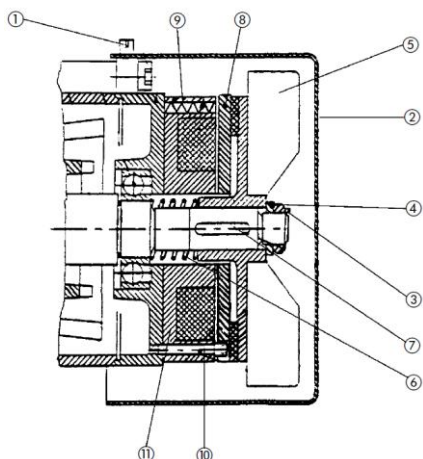
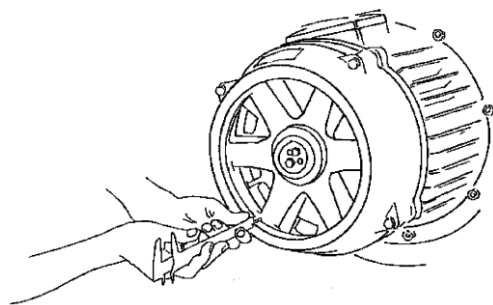

Figure 18
Figure 19
Loosen the screws item 1 and remove the grille item 2 (figure 17). With the brake applied measure at any point between the brake fan (figure 18) and a surface of the bell. After this measurement, axially push the fan inside the motor as use a lever and make another measurement, recording the difference (figure 18). If the difference is greater than the rated values (0.8/1.2mm) proceed as follows:
Loosen the screws (figure 19) and then turn the adjusting ring nut clockwise to take up any axial shifting greater than the rated value, bearing in mind that one complete turn of the ring nut corresponds to 2 mm (figure 20). After this take up operation, repeat the measurement with the brake released (figure 18), checking that the axial shifting is within the rated value, then put back the screws and the grille in their positions (figure 17).